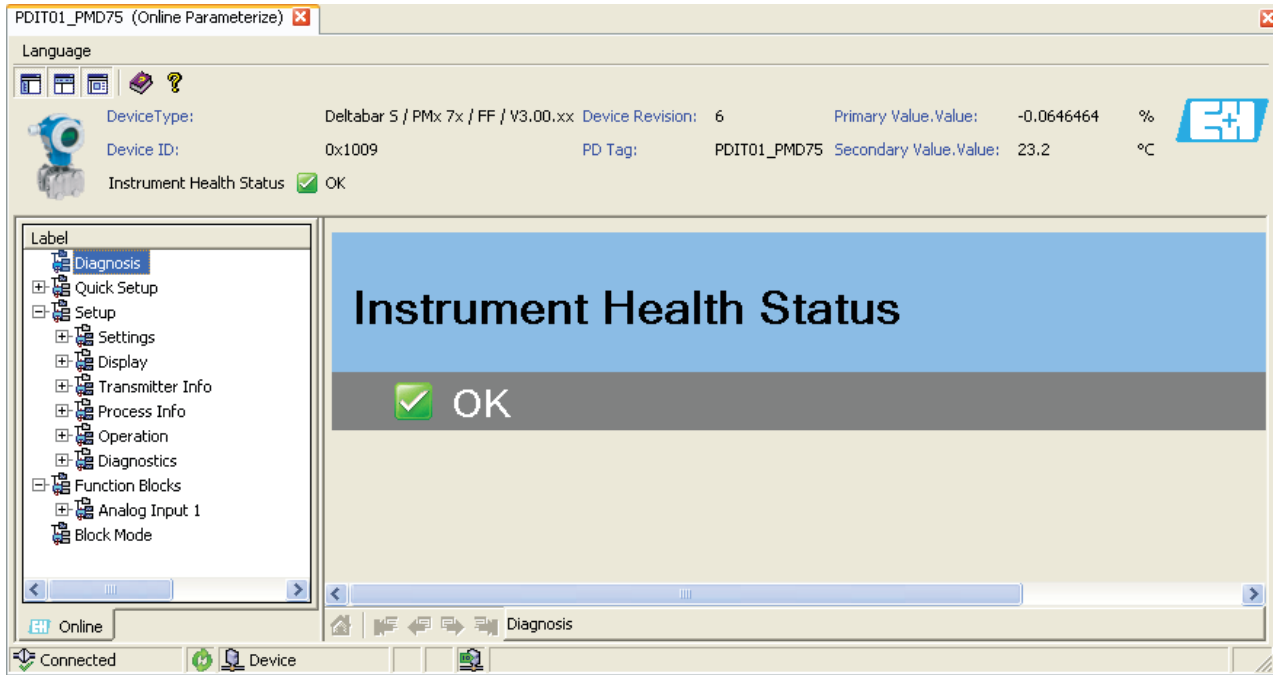

Figure 2-8. Online Parameterize.
7. If the **Online Parameterize** window does not open right away, right-click on the device name in the **Network** view and select the **Online Parameterize** command to open the DTM pertaining to the DP Transmitter (Figure 2-8). Note the presence of the parameters tree at the left of the screen. Clicking the plus (+) and minus (-) signs opens and closes the different menus.